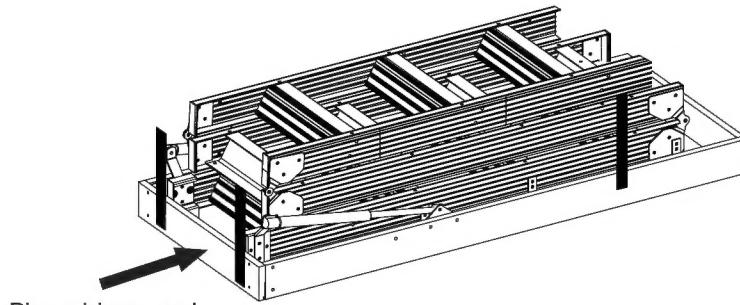

Figure 6
8. Install metal E-Z hang straps to the folding aluminum attic ladder (See Figure 6), prior to lifting folding aluminum attic ladder into rough opening.
- B. It is recommended to drill pilot holes to keep from splitting the frame boards. Using the  $7/8$ " roofing nails and straps provided, attach one strap using two (2) of the roofing nails enclosed, on the outside of the folding aluminum attic ladder frame at the extreme right hand corner near the door stop blocks.
- C. Attach the second strap outside the first strap on the far outside frame. (See Figure 6)
- D. The third and fourth straps should be positioned on the piano hinge frame end on each corner opposite the door opening. (See Figure 6).